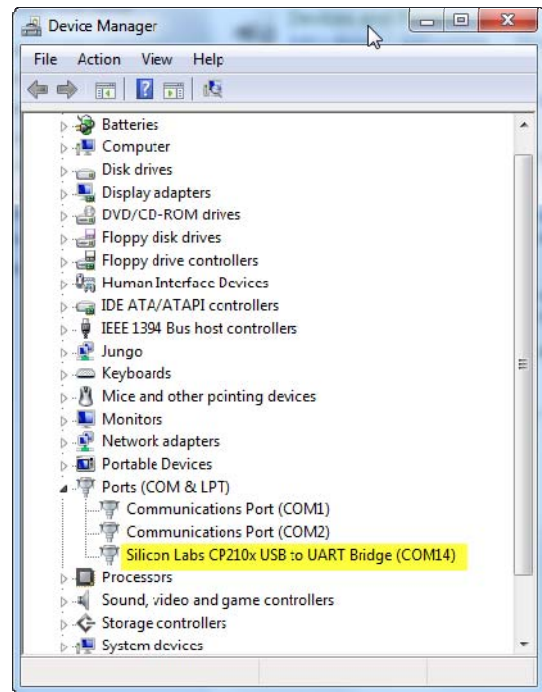

Figure 31 -- Device Manager showing COM Port for A-910 Dongle
5. Locate **SILICON LABS CP210x USB to UART Bridge (COM x)** (see Figure 31).